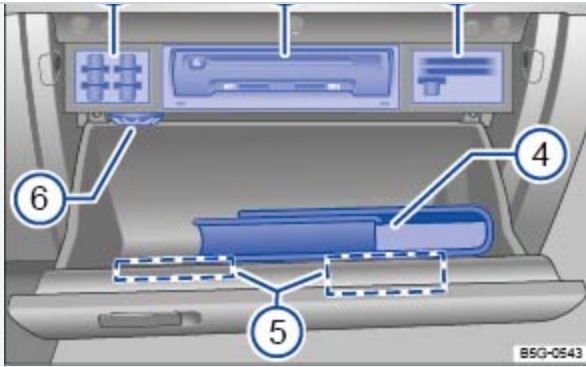

Fig. 124 Inside the glove compartment.
Key to ⇒ Fig. 124 :
Vehicles equipped with an Infotainment system may have a CD player, SD card readers, or other Infotainment System accessories ⇒ Fig. 124 in the glove compartment. See ,Chapter *Infotainment System* for further information.
compartment as shown in Fig. 124.
Depending on vehicle equipment, there may be holders for SD cards ⇒ Fig. 124, other types of cards ^③, and a coin holder in the upper part of the glove compartment.
There is an air vent ⇒ Fig. 124 in the glove compartment. Cool air can be directed into the glove compartment if the air conditioner is on. Open or close the air vent by turning it.